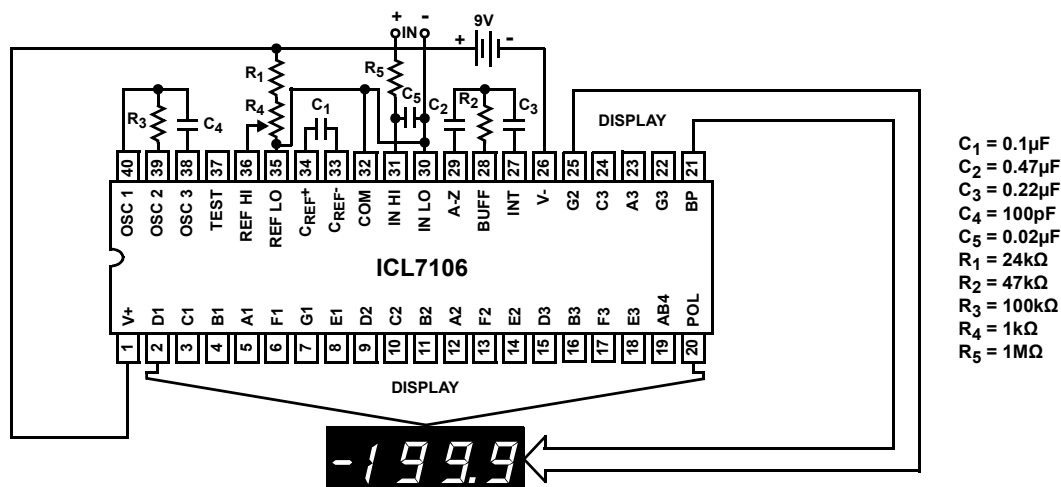
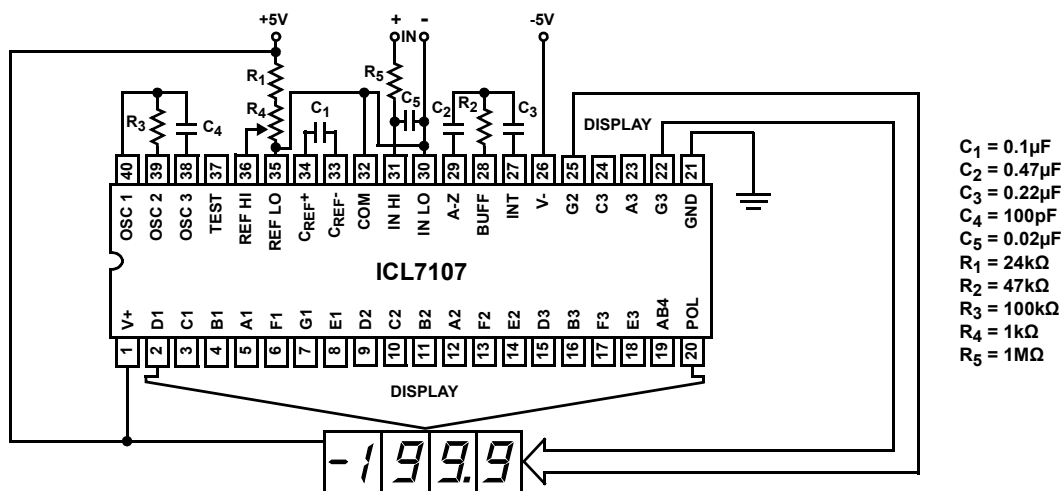

FIGURE 1. ICL7106 TEST CIRCUIT AND TYPICAL APPLICATION WITH LCD DISPLAY COMPONENTS SELECTED FOR 200mV FULL SCALE
FIGURE 2. ICL7107 TEST CIRCUIT AND TYPICAL APPLICATION WITH LED DISPLAY COMPONENTS SELECTED FOR 200mV FULL SCALE
- Unless otherwise noted, specifications apply to both the ICL7106 and ICL7107 at $T_A = +25^\circ\text{C}$, $f_{\text{CLOCK}} = 48\text{kHz}$. ICL7106 is tested in the circuit of Figure 1. ICL7107 is tested in the circuit of Figure 2.
Figure 1 is a block diagram of a digital display system. At the top, a digital display shows the numbers 0 through 9. Each digit is composed of segments labeled 'a' through 'g'. The display is connected to a BACKPLANE. Below the display, the system architecture includes a LCD PHASE DRIVER, three 7 SEGMENT DECODE blocks, a LATCH, and four counters (1000's, 100's, 10's, 1's). A typical segment output circuit is shown in a callout, consisting of a PNP transistor (0.5mA) and an NPN transistor (2mA) connected to V+ and INTERNAL DIGITAL GROUND. The system also includes a LOGIC CONTROL block, a ÷4 divider, and a ÷200 divider. The display is connected to a TEST point (37) and a V- terminal (26). The system is powered by V+ and V-.